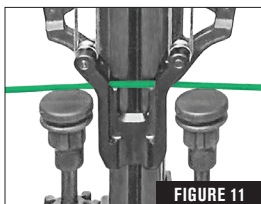

FIGURE 11
- Begin to rotate the crank arm in a counterclockwise manor until the sled (part 5) and bowstring are fully back at the string stops or static position (Fig. 11).